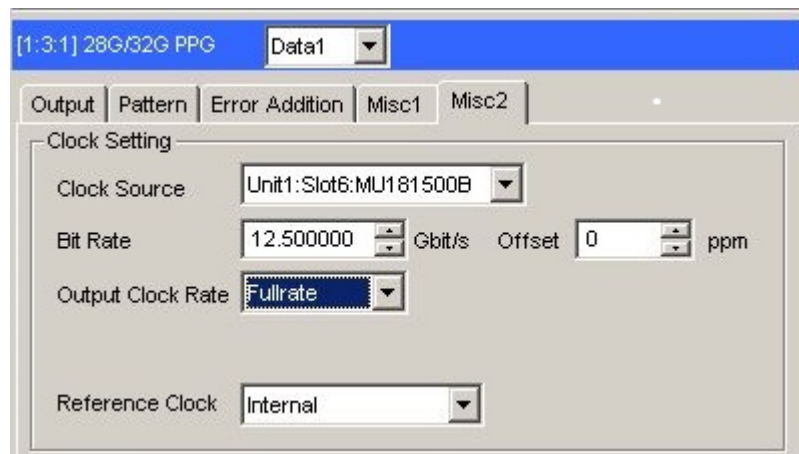

Figure B.3-2 Output Clock Rate Setting on the Misc2 Tab of MU183020A
4. Use a coaxial cable (applicable part, 1.3 m, K connector) to connect MU183020A's **Clock Output** connector and MP1825B's **Clock Input** connector. Then, on the **Misc2** tab of MU183020A, select **Full Rate Clock** in the **Output Clock Rate** box. (Figure B.3-2)
4. Use a coaxial cable (applicable part, 1.3 m, K connector) to connect MU183020A's **Clock Output** connector and MP1825B's **Clock Input** connector. Then, on the **Misc2** tab of MU183020A, select **Fullrate** in the **Output Clock Rate** box. (Figure B.3-2)